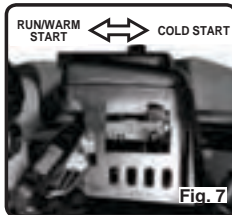

Fig. 7
- 3 Move the choke lever to the "cold start" position (See Figure 7)
- 7 After engine starts and runs for 10-15 seconds, move choke lever to "run/ warm start" position (See Figure 7)
- 3 Move the choke lever to the "run/ warm start" position (See Figure 7)
- 3 Move the choke lever to the 'run/ warm start' position (see Figure 7)